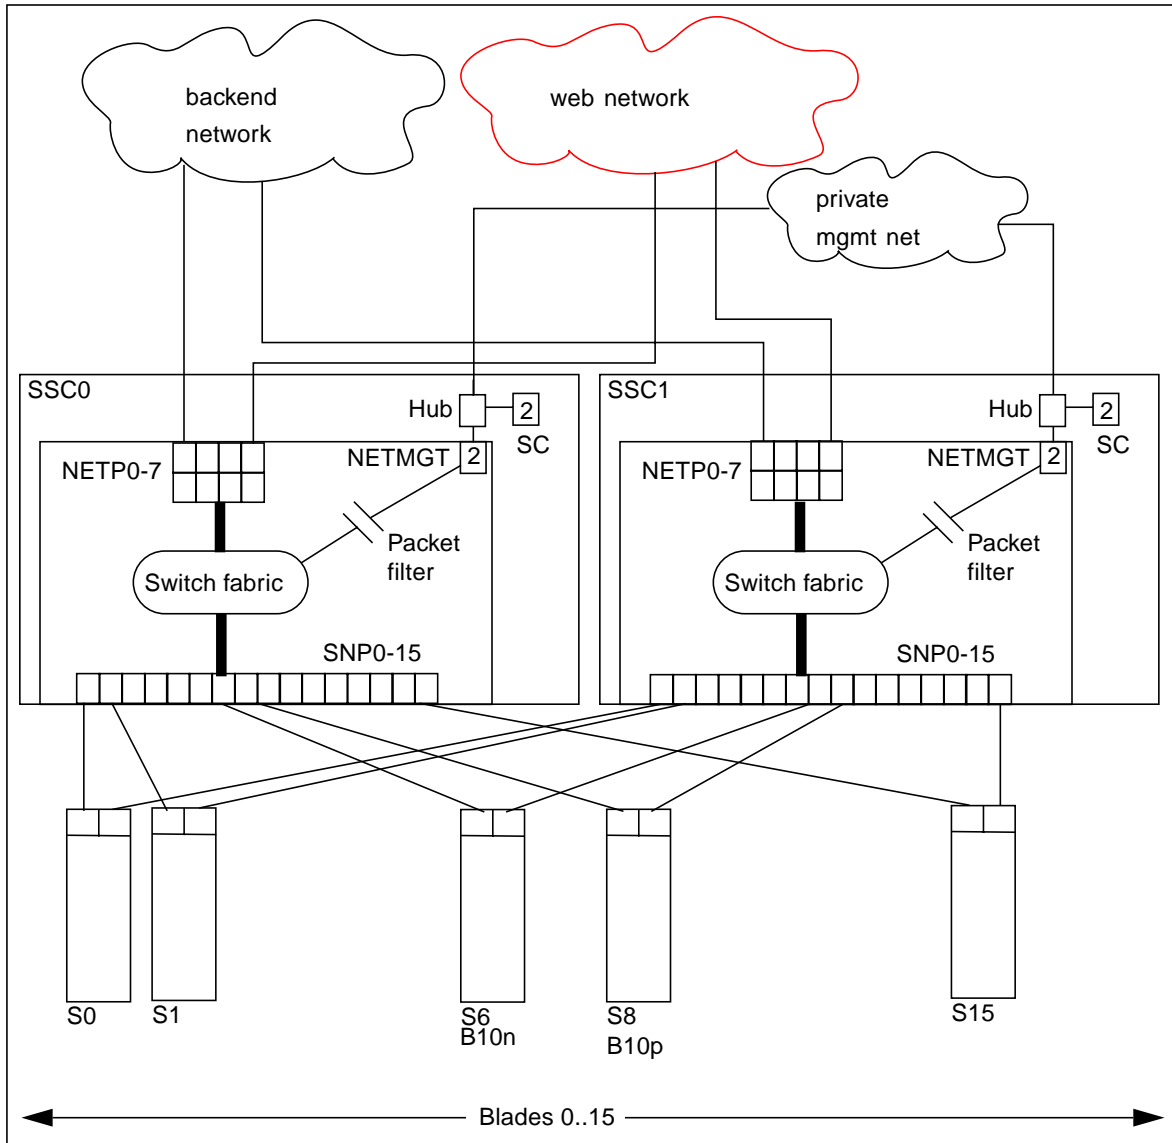

FIGURE 1-3 A Dedicated Management Network and Web Server Network Isolated from the Backend Network
The numerals associated with each port (either 1 or 2), represent the VLAN numbers programmed into the system by default. These numbers indicate that there is one data VLAN (1), and one management VLAN (2). Further VLAN partitioning might be desirable as shown in FIGURE 1-3. The actual VLAN-ID assignment can be coordinated with the VLANs used in the external switches, or its scope can be limited to the internal switches, by keeping the uplinks as untagged VLANs.